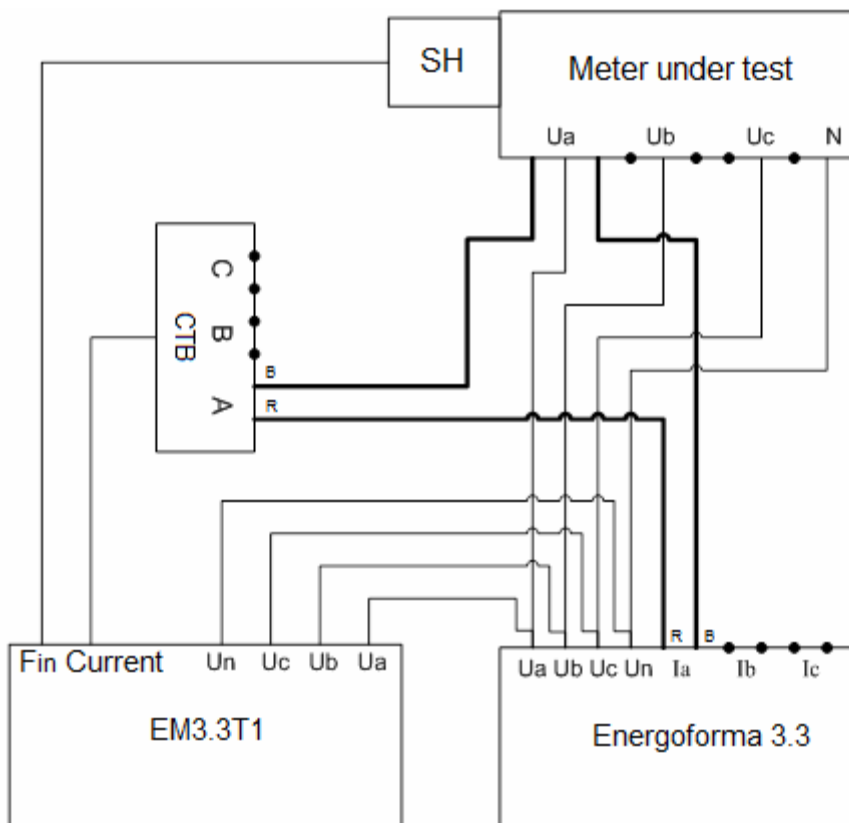

Fig. C1. Test scheme for the EM3.3T1
- To test the meter with an optical (LED) pulse output, it is necessary to use the scanning head SH-E (included in the EM3.3T1 delivery package). The SH-E is mounted onto the meter and connected to the pulse input **Fin** of the EM3.3T1. The connection scheme is shown in Fig. C1, where the current circuit of phase A is outlined with a bold line.